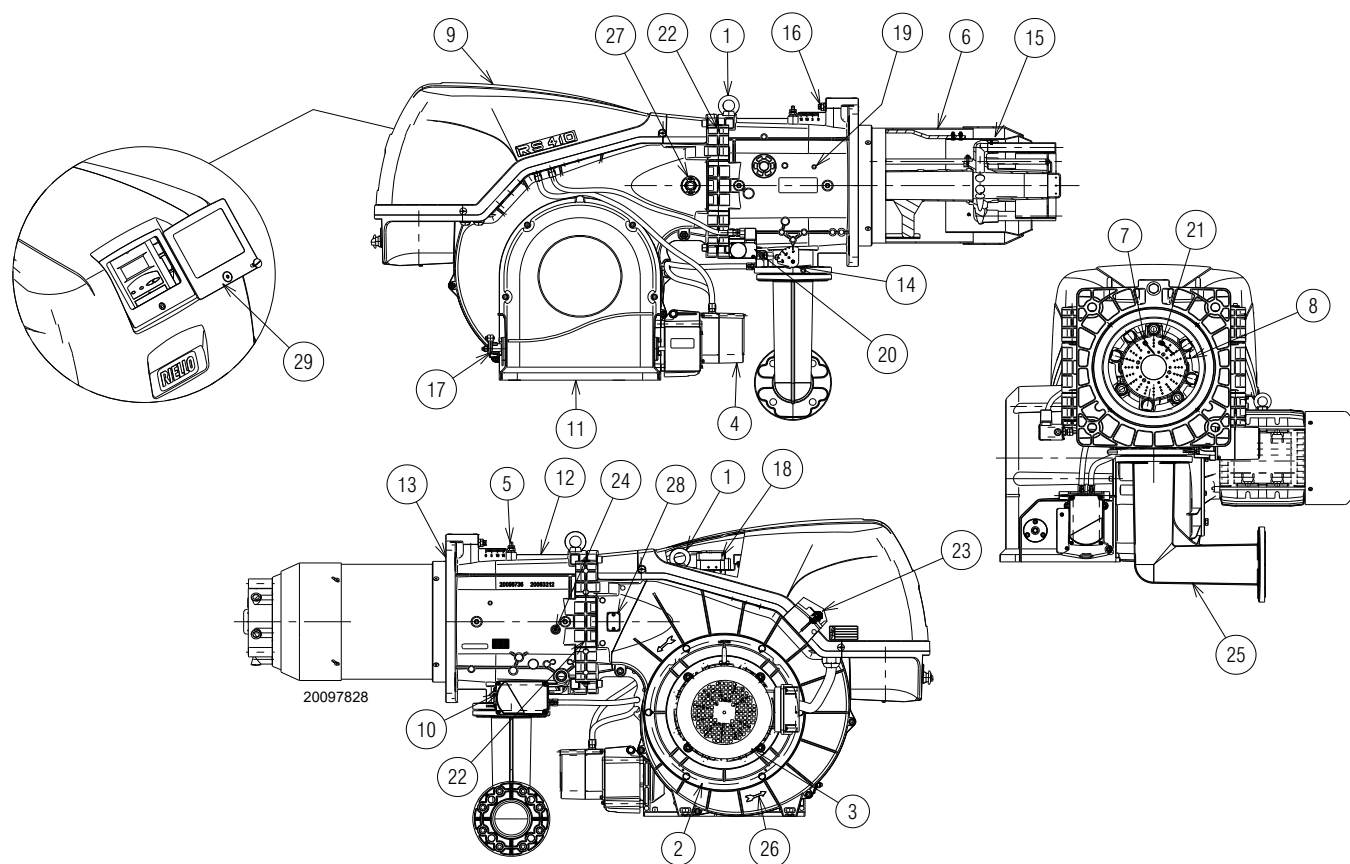

Fig. 4
- (1) Reference conditions: Room temperature 20°C - Gas temperature 15°C - Barometric pressure 1013 mbar - Altitude 0 m a.s.l.
(2) Pressure at the test point of the pressure switch 5)(Fig. 4) with zero pressure in the combustion chamber and at maximum burner output.
(3) Sound pressure measured in manufacturer's combustion laboratory, with burner operating on test boiler and at maximum rated output. The sound power is measured with the "Free Field" method, as per EN 15036, and according to an "Accuracy: Category 3" measuring accuracy, as set out in EN ISO 3746.